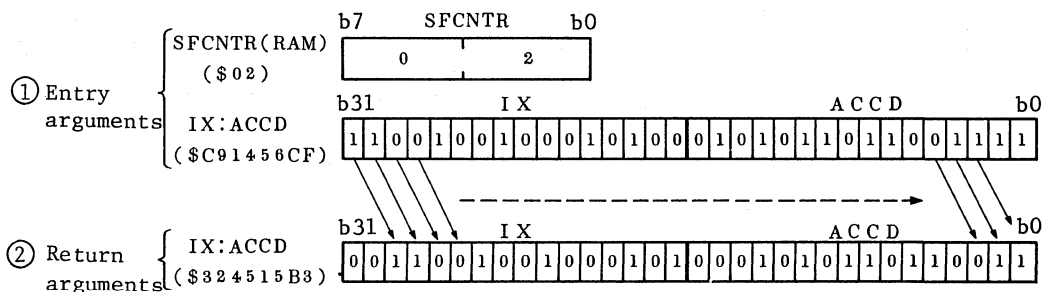

Fig. 1 Example of SHR execution
(b) Fig. 1 shows example of SHR execution. If entry arguments are held as shown in part ① of Fig. 1, 32-bit binary data is shifted to right as shown in part ② of Fig. 1. In this case, "0" in upper 2 bits.